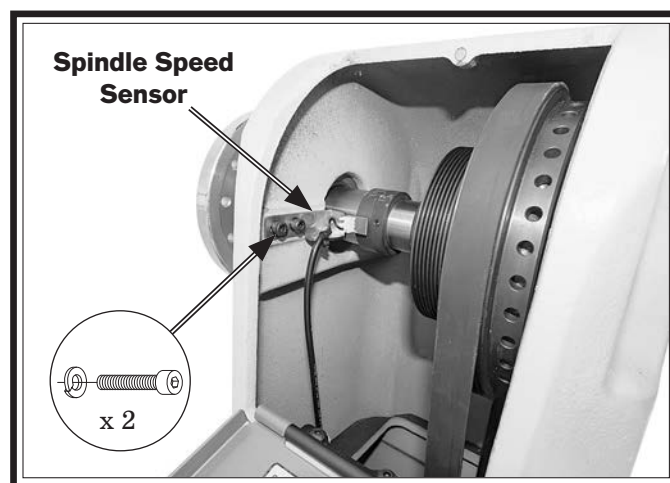

Figure 53. Spindle speed sensor location.
7. Remove (2) cap screws and lock washers securing spindle speed sensor, then move sensor out of the way (see **Figure 53**).